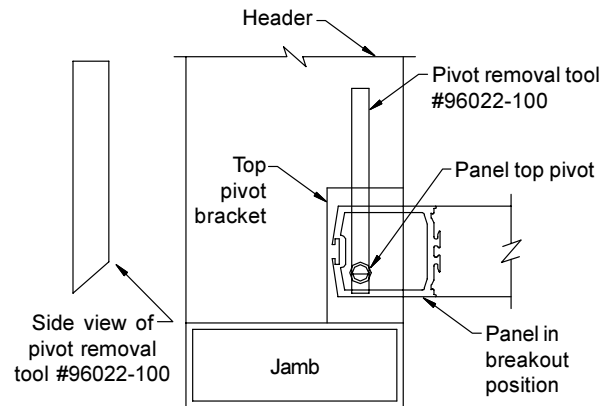

Figure 16. Panel Removal Detail
4. If necessary, use top pivot removal tool #96022-100 to remove panel. Loosen set screw and push pin down with the tool (**Figure 16**).